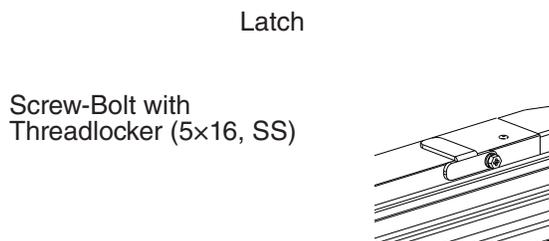

Fig. 30
- 8) Remove the door latch from the lower door. See Fig. 30.